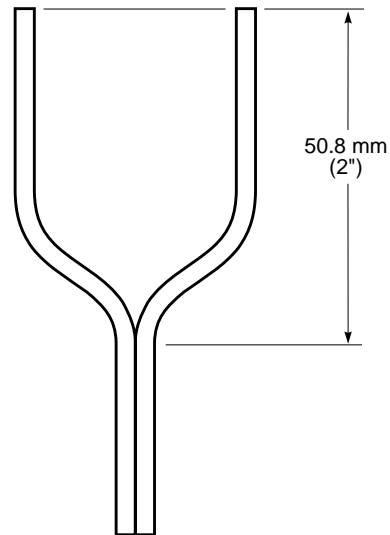

Figure 7. Preparing the Wire Pair for Insertion into the Quiet-Front Connector Modules
- 8 Slit the ends of the leads of each drop-wire pair and bend as shown in Figure 7